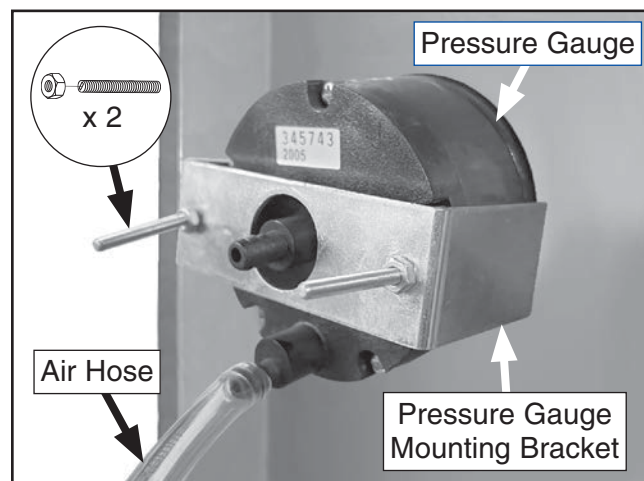

Figure 32. Pressure gauge secured to bracket with air hose connected.
44. Secure pressure gauge to bracket with pressure gauge mounting bracket, (2) M3-.5 x 42 slotted set screws, and (2) M3-.5 hex nuts (see **Figure 32**).
45. Connect (1) end of air hose to output on back of pressure gauge (see **Figure 32**).